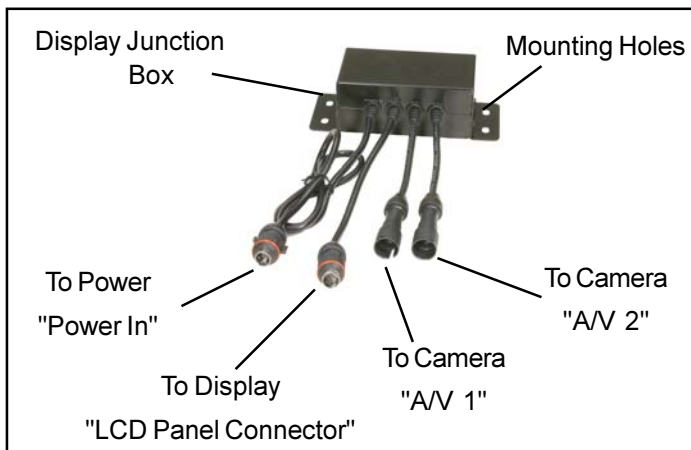

Figure 6 Display Junction Box
- Plug the male connector of the display harness(4) into the female lead from the display. **Note:** The display harness should route toward the windshield. See Figure 6.
- Locate the display junction box(3) between the camera(s) and flat panel display. Secure the display junction box(3) in a suitable location using double sided tape or four sheet metal screws. See Figure 6.